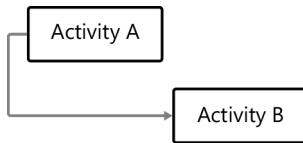

FIGURE 4-5 A start-to-start relationship is shown with an arrow from the start of the predecessor activity to the start of the successor activity.
- **Start-to-start (SS)** A start-to-start relationship is one in which the successor activity cannot start until the predecessor activity starts. For example, you cannot begin testing a new piece of software until you have started writing the code. Figure 4-5 depicts how this can be represented diagrammatically.